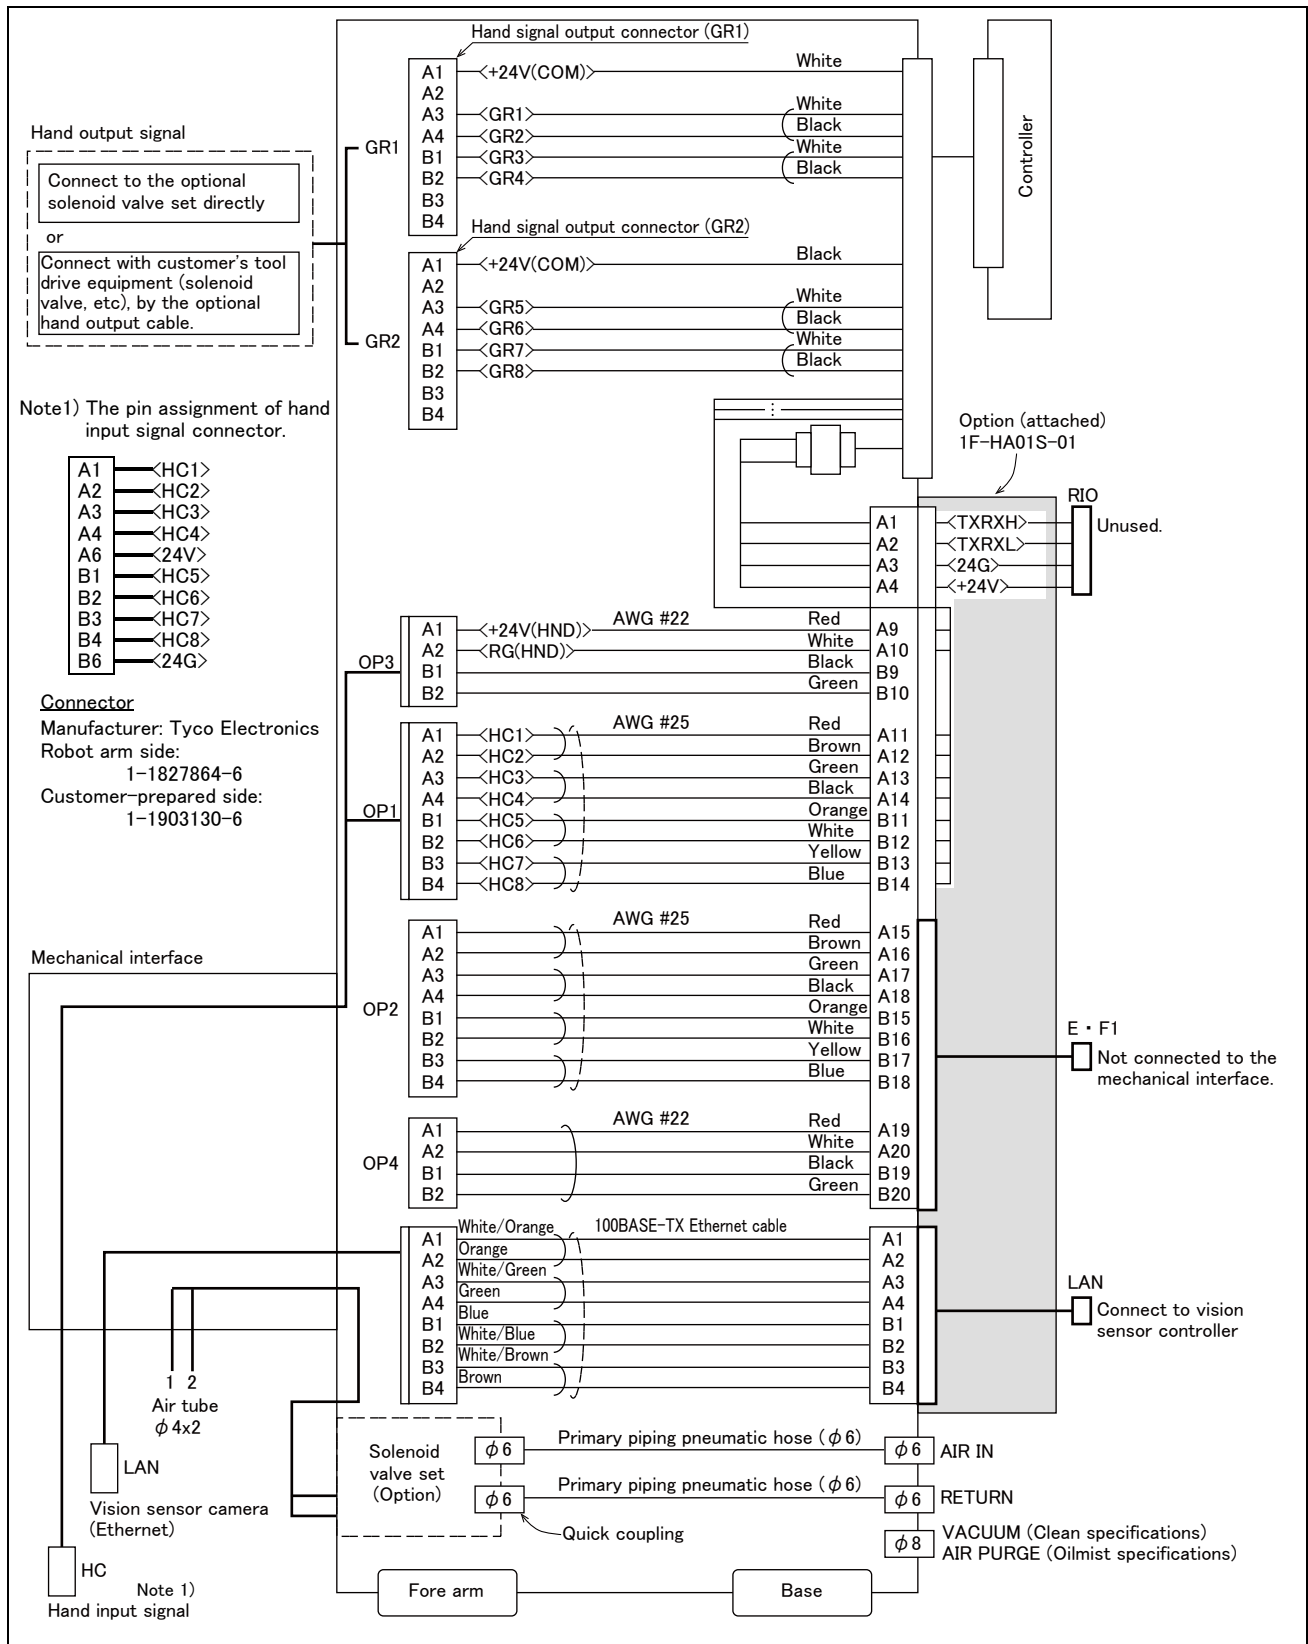

Fig.2-38 : Wiring and piping system diagram for hand and example the solenoid valve installation: RV-4FR/7FR/13FR series SH05
- *3) Refer to Fig. 2-38 for pin assignment of the hand input cable (HC).